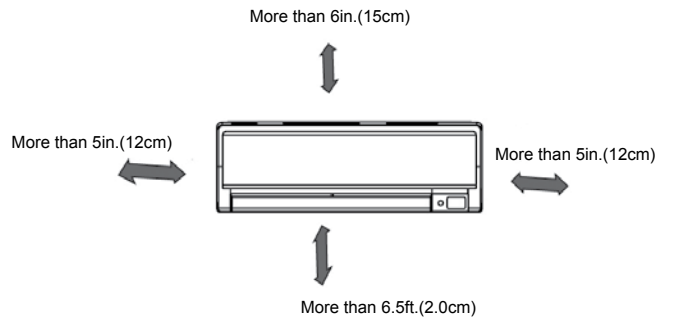
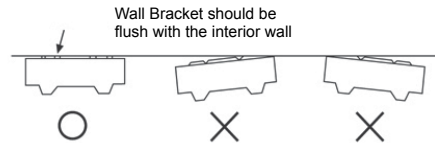
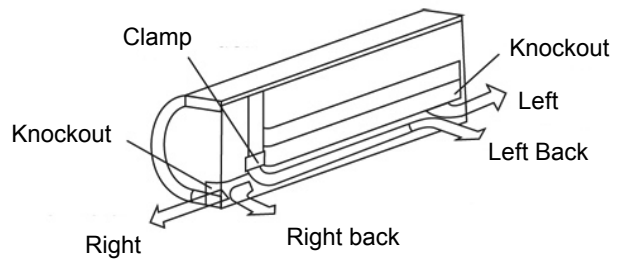

Fig. 1
Fig. 9
Fig. 14
- Unit must be installed in a location that does not obstruct the flow of air and ensures clearances are maintained. (Fig. 1)
- The indoor unit should be mounted as high up on the wall toward the ceiling, leaving a minimum of 6" (150mm) of space between the ceiling and the top of the indoor unit. (Fig. 1)
- B. Mount the wall bracket flush on structural parts (studs) of the wall with proper unit clearances in consideration. (Fig. 1 and Fig. 9)
- A. Determine hole position according to the wall bracket that comes with your unit, the unit’s required clearances (Fig. 1) and which direction (left/right) the lines will be routed from the back of your unit (Fig. 14). Drill 2.5”(65mm) hole angled downward (approx. 45°) toward the outdoors. (Fig. 11).
- A. Remove the knockout from the desired side of the unit that the line set will be routed from. The lines from the unit can be routed either left or right, left back or right back (Fig. 14).
- B. Remove the clamp (Fig. 14) before attempting to bend the line set to prevent kinks. The clamp may be replaced and used to hold the line set in place, but this depends on the routing direction of the line set and whether it is needed, taking into account the line's bend radius.